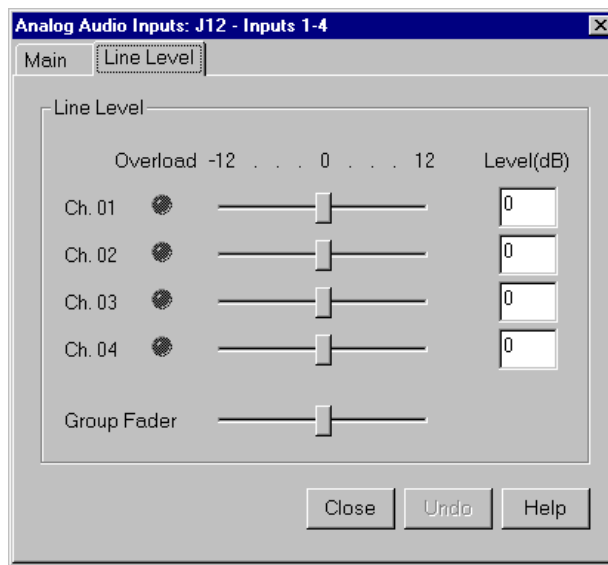

Figure 29. Analog Audio Input dialog box, Line Level tab
1. In the Analog Audio Input dialog box, click the Line Level tab (Figure 29).